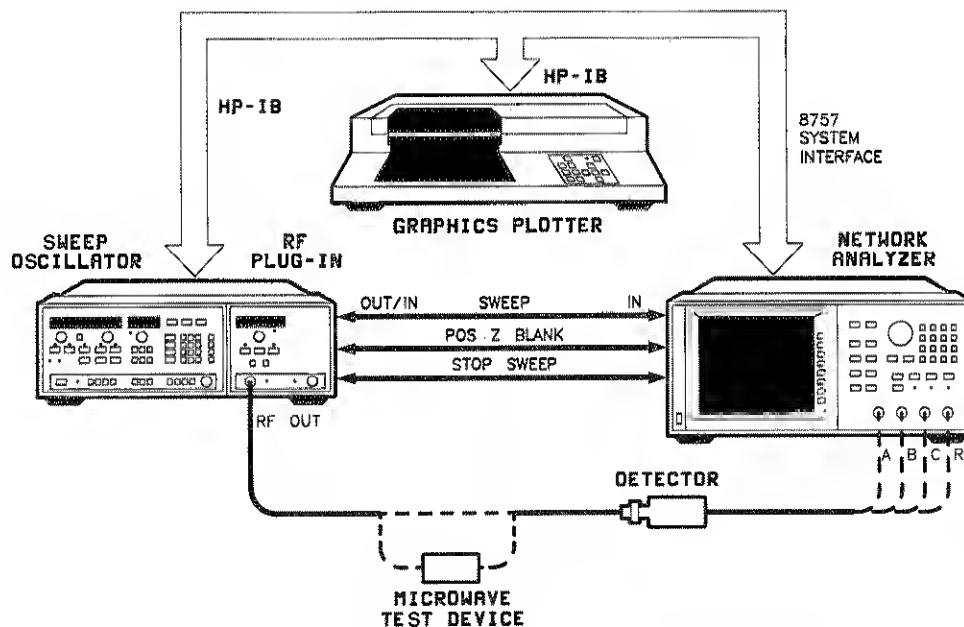

Figure 32. Equipment Set-up for Operator's Check
2. Set up the equipment as shown in figure 32, with the detector connected to input A of the analyzer. Connect the detector's RF input to the RF output of the source for a "thru" (0 dB insertion loss) connection. Turn on the instruments and allow 30 minutes warm-up time.